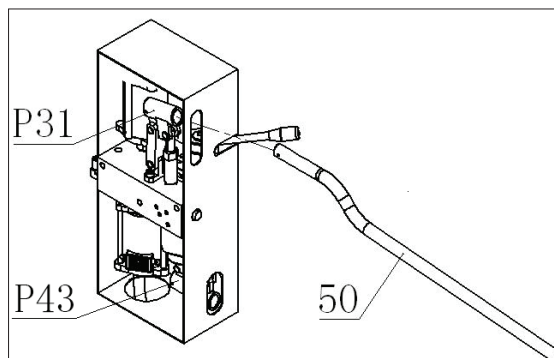

Fig.12
• Operate manually: Insert the handle tube (50) into the handle sockets. 2 handle sockets are provided. The upper one (P31) is for high pressure and low speed; and the lower one (P43) is for low pressure and faster speed. Fig.12.